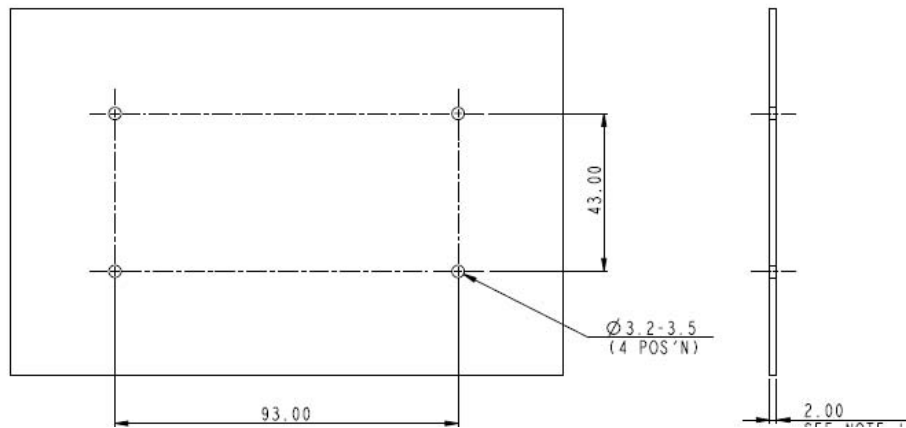

Figure 8: Mechanical mounting footprint for use when panel-mounting the 9601.
4. See Figure 8 for mounting hole dimensions